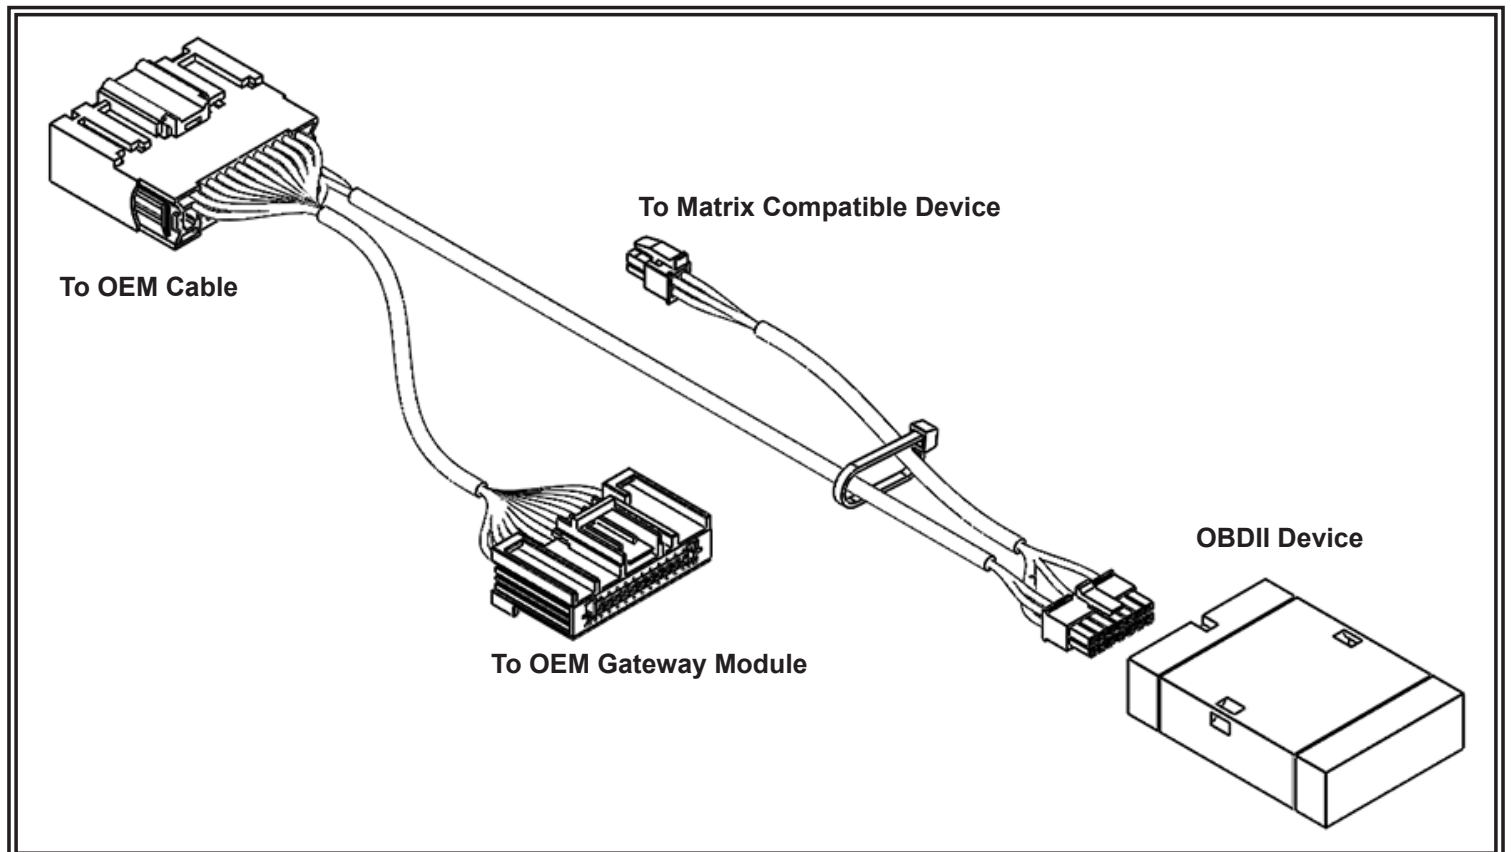

Figure 7
Step 7. Tuck and secure the Gateway Adapter and any excess cabling under the dash up and away from vehicle controls (e.g. pedals). The remaining, unused OBDII Harness connectors will be routed back to the OBDII Device and another Matrix® compatible device. See FIGURE 7 for further details.
Step 8. Place Gateway module back into position and secure with the two (2) nuts removed in Step 3. Torque to original OEM torque value recorded from Step 3.